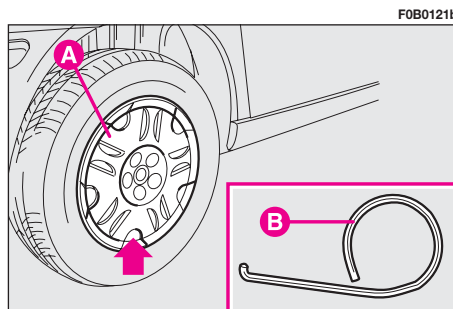

fig. 6
11) Remove the wheel cap **A**-fig. 6 (for versions with steel rims) or the clipped wheel hub cap (for versions with alloy rims) by means of tool **B** supplied with the car and housed in the jack container.